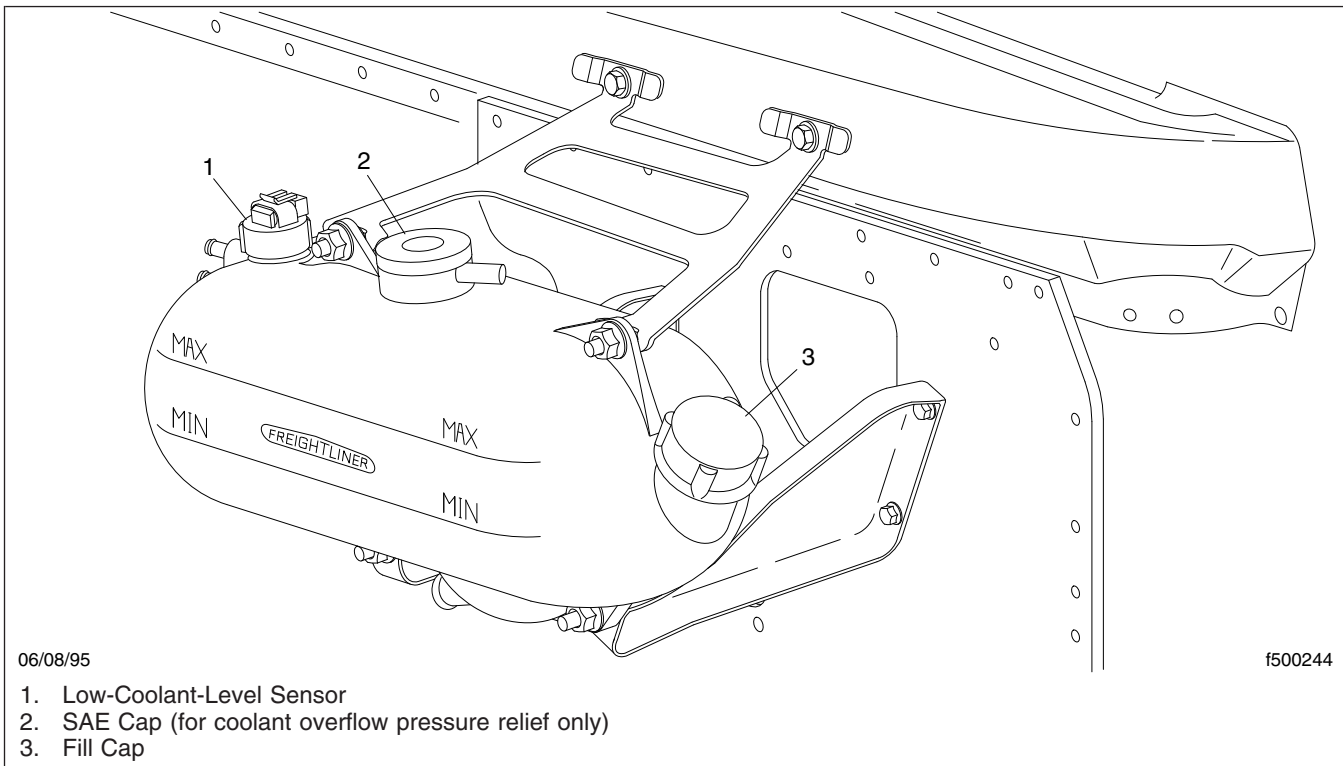

Fig. 1, Surge Tank
2. Using a radiator-cap tester, check the pressure cap to see if it maintains pressure to within 10% of the pressure rating marked on the cap. If it doesn't, replace the cap. See Fig. 1. Make sure that the replacement radiator cap is correctly rated for the cooling system of the vehicle.